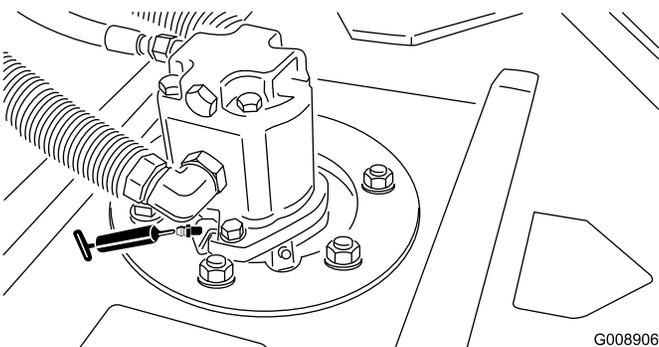

Figure 42
- Cutting unit spindle shaft bearings (1 per cutting unit) (Figure 42)